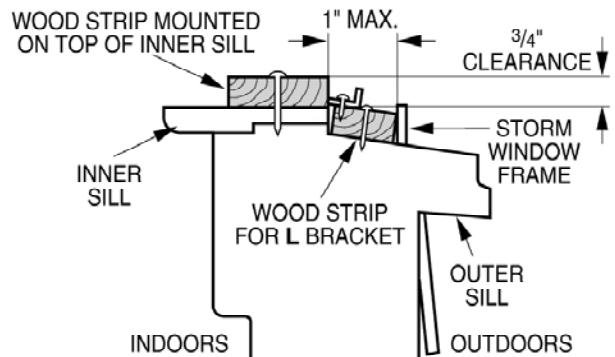

Figure 23
2. If storm window presents interference, fasten a 2" wide wood strip to the inner window sill across the full width of the sill. The wood strip should be thick enough to raise the height of the window sill so that the unit can be installed without interference by the storm window frame. See Figure. 23. Top of wood strip should be approximately $\frac{3}{4}$ " higher than the storm window frame (STORM WINDOW FRAME) or wood strip (OUTDOORS) to help condensation to drain properly to the outside.
3. Install a second wood strip (approximately 6" long by 1 1/2" wide and same thickness as first strip) in the center of the outer sill flush against the back off the inner sill. This will raise the L bracket as shown Figure. 23.